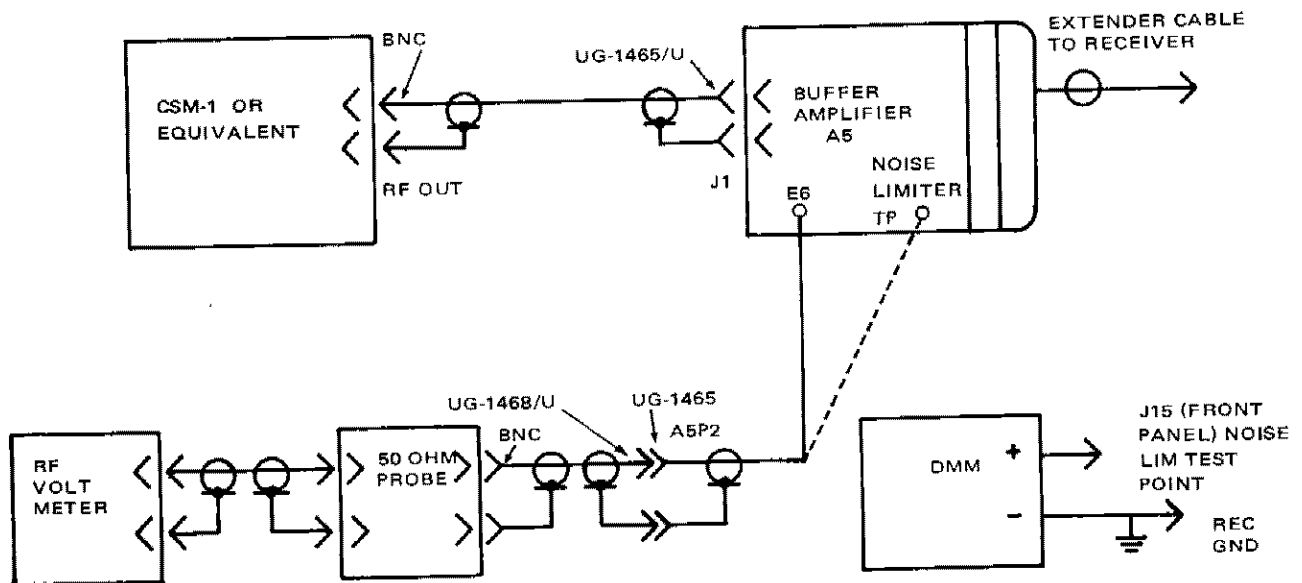
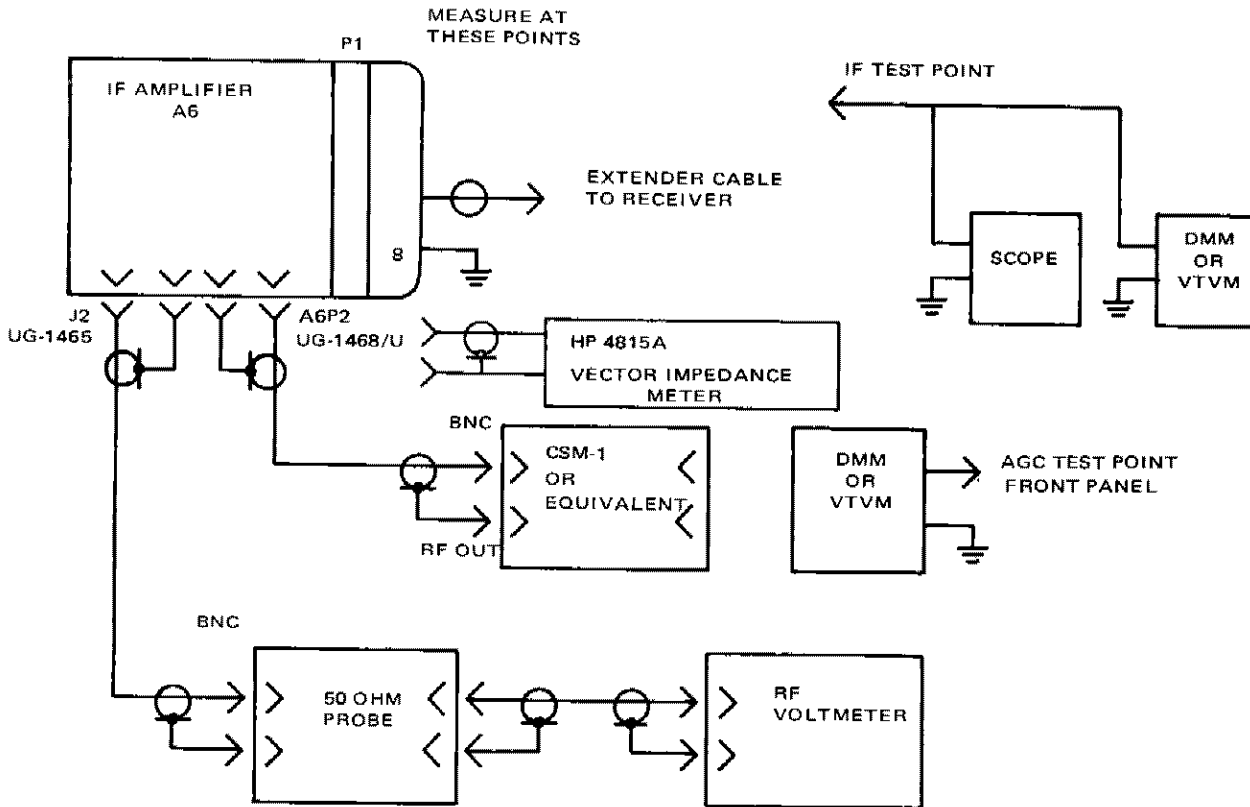

Figure 7-7. Test Setup for Buffer Amplifier A5
Figure 7-8. Test Setup for IF Amplifier A6
7.14.7 Buffer Amplifier A5 Alignment.- Figure 7-7 shows the test setup. See figures 10-13 and 11-27 for test point and measurement point locations.
- (1) Connect RF voltmeter to the signal generator and record reading as a reference level.
- (2) Connect test equipment as shown in figure 7-7.
- (3) Carefully adjust C2 (internal control) for maximum output on the RF voltmeter and record reading (-1.0 to +1.5 dB of step (1)).
- (4) Set the signal generator for an output of 0 dBm and record reading on DMM at noise limiter test point on front panel (60 mV min).
- (5) This completes test. Disconnect all equipment, replace module in receiver, perform procedures described in 9.5.4 or 9.5.5 and 6.8 before restoring equipment to service.
7.14.8 IF Amplifier A6 Alignment.- Figure 7-8 shows the test setup. See figures 10-14 and 11-29 for test point and measurement point locations.
- (1) Connect 220-pF capacitor across R22.
- (2) Connect test equipment as shown in figure 7-8.
- (3) Set generator for 20.6 MHz, modulated 30% at 1 kHz. Set attenuator to read 80 millivolts rms on VTVM or DMM at IF test point on front panel.
- (4) Tune C9, C14, C19, and C32 for maximum output on DMM.
- (6) Disconnect generator from J1. Connect RF vector impedance meter to J1. Set frequency to 20.6 MHz and tune C2 and C3 for 50 ohms, zero reactance.
- (7) Disconnect impedance meter, reconnect generator to J1, and adjust for 50 mV on VTVM or DMM.
- (8) The generator attenuator must read from -100 to -102 dBm. If the attenuator reads from -102 to -104 dBm, adjust C14 to obtain the required reading. If the attenuator reads -104 dBm or less (i.e. -105 dBm) both C14 and C32 must be adjusted as follows:
- (9) Adjust C14 for 50 mV output.
- (10) Set attenuator for -102 dBm and adjust C32 for 50 mV output.
- (11) Slowly increase the generator output while observing the VTVM or DMM. Note the point that the audio output stops increasing as it starts to distort (a scope must be connected, as shown in figure 7-8, to the audio output to determine if output is not distorted). This must exceed 250 mV. If it does not, readjust C32 for 300 mV. If 300 mV cannot be obtained, any level greater than 250 mV is acceptable.
- (12) Set generator attenuator for -102 dBm and readjust C14 for 50 mV output.
- (13) Set DMM at IF test point to d.c. scale.
- (14) Set the generator attenuator for maximum attenuation. Record voltage at IF test point (2.5 to 3.5 V d.c.).
- (15) Change DMM to a.c. scale and decrease the generator power until the VTVM or DMM reads 80 mV rms.
- (16) Connect d.c. meter to AGC test point on front panel door and set AGC to read 5.5 V d.c. Record VTVM or DMM reading at IF test point (65 mV min).
- (17) Set AGC pot to read 7.0 V d.c. Record VTVM or DMM reading at IF test point (30 mV max).
- (18) Set AGC pot to read 12 V d.c. and increase the generator power to -15 dBm. Record VTVM or DMM reading at IF test point (2.5 mV max).
(19) This completes test. Perform procedures described in 9.5.4 or 9.5.5 and 6.8 before restoring equipment to service.